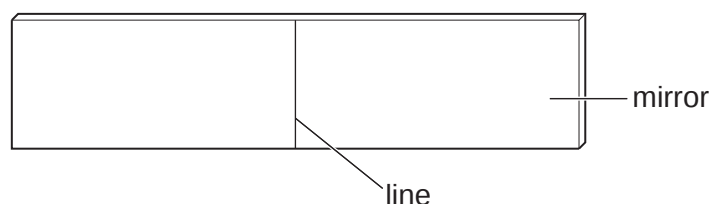

Fig. 4.1
2. The mirror is to have a thin straight line drawn on the front surface at the centre as shown in Fig. 4.1. The line can be drawn with a felt-tipped pen.